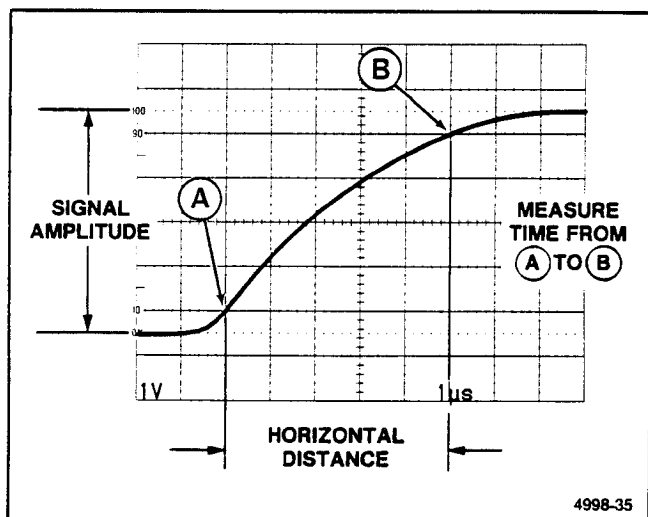

Figure 6-6. Rise time.
Rise-time measurements use the same methods as time duration, except that the measurements are made between the 10% and 90% points on the leading edge of the waveform (see Figure 6-6). Fall time is measured between the 90% and 10% points on the trailing edge of the waveform.
4. Adjust the vertical positioning so that the zero reference of the waveform touches the 0% graticule line and the top of the waveform touches the 100% graticule line (see Figure 6-6).
6. Horizontally position the display so the 10% point on the waveform intersects the second vertical graticule line (see Figure 6-6, Point A).
EXAMPLE: The horizontal distance between the 10% and 90% points is 5 divisions (see Figure 6-6), and the SEC/DIV switch is set to $1 \mu\text{s}$. The X10 magnifier knob is pushed in (X1 magnification).